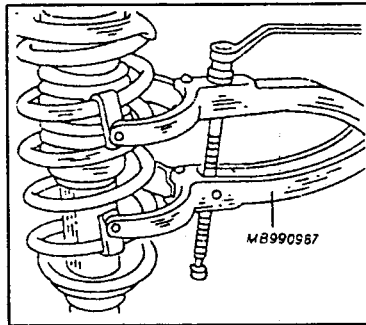

Fig. 10.2. — Compressing a coil spring with the special spring compressor.
- Referring to Fig. 10.2, compress the spring with the special tool shown or any other spring compressor that can be placed over 3 or 4 coils. Spring compressors can be hired from tool hire companies.